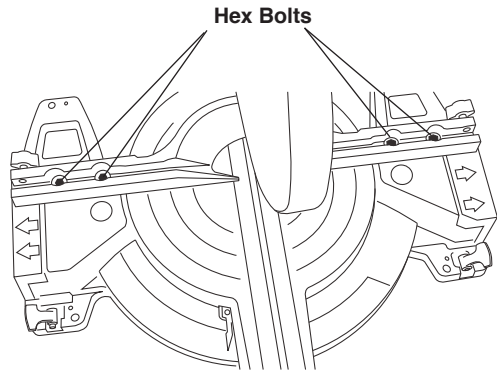

Figure 10. Fence Adjustment
- c. Use multi purpose tool (supplied with model 5412 only) or use a 7/16" socket and loosen four (4) hex bolts behind fence (Figure 10).